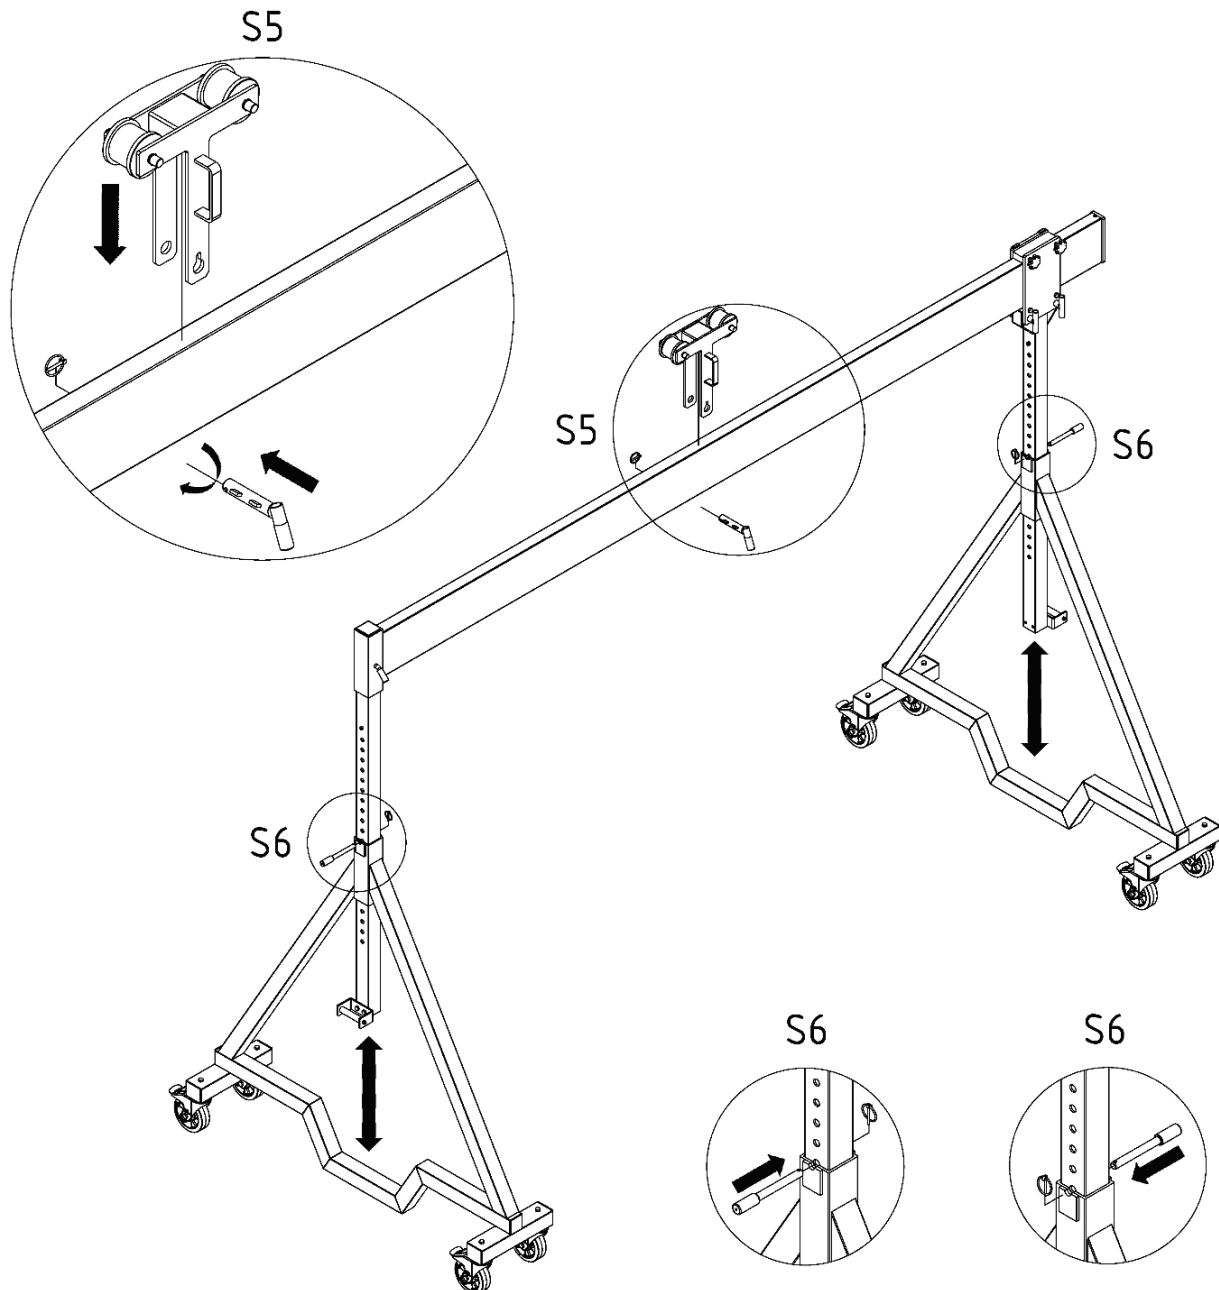

Fig. 4
7.5 Next, place the trolley on to the aluminium carrier as shown in fig. 4 and insert the plug-in bolt for the trolley into the corresponding guide.